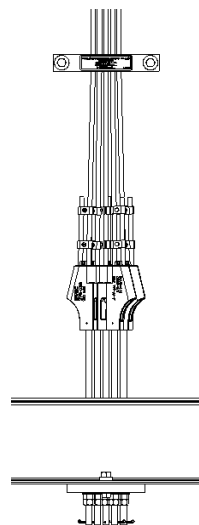

Figure 1: Rope Guide Installation
- Position the Rope Guide to the desired height above the shackles far enough away from the shackles to reduce the angle of rope pull off and still provide adequate overhead clearance of the Rope Guide as shown below in **Figure 1**.